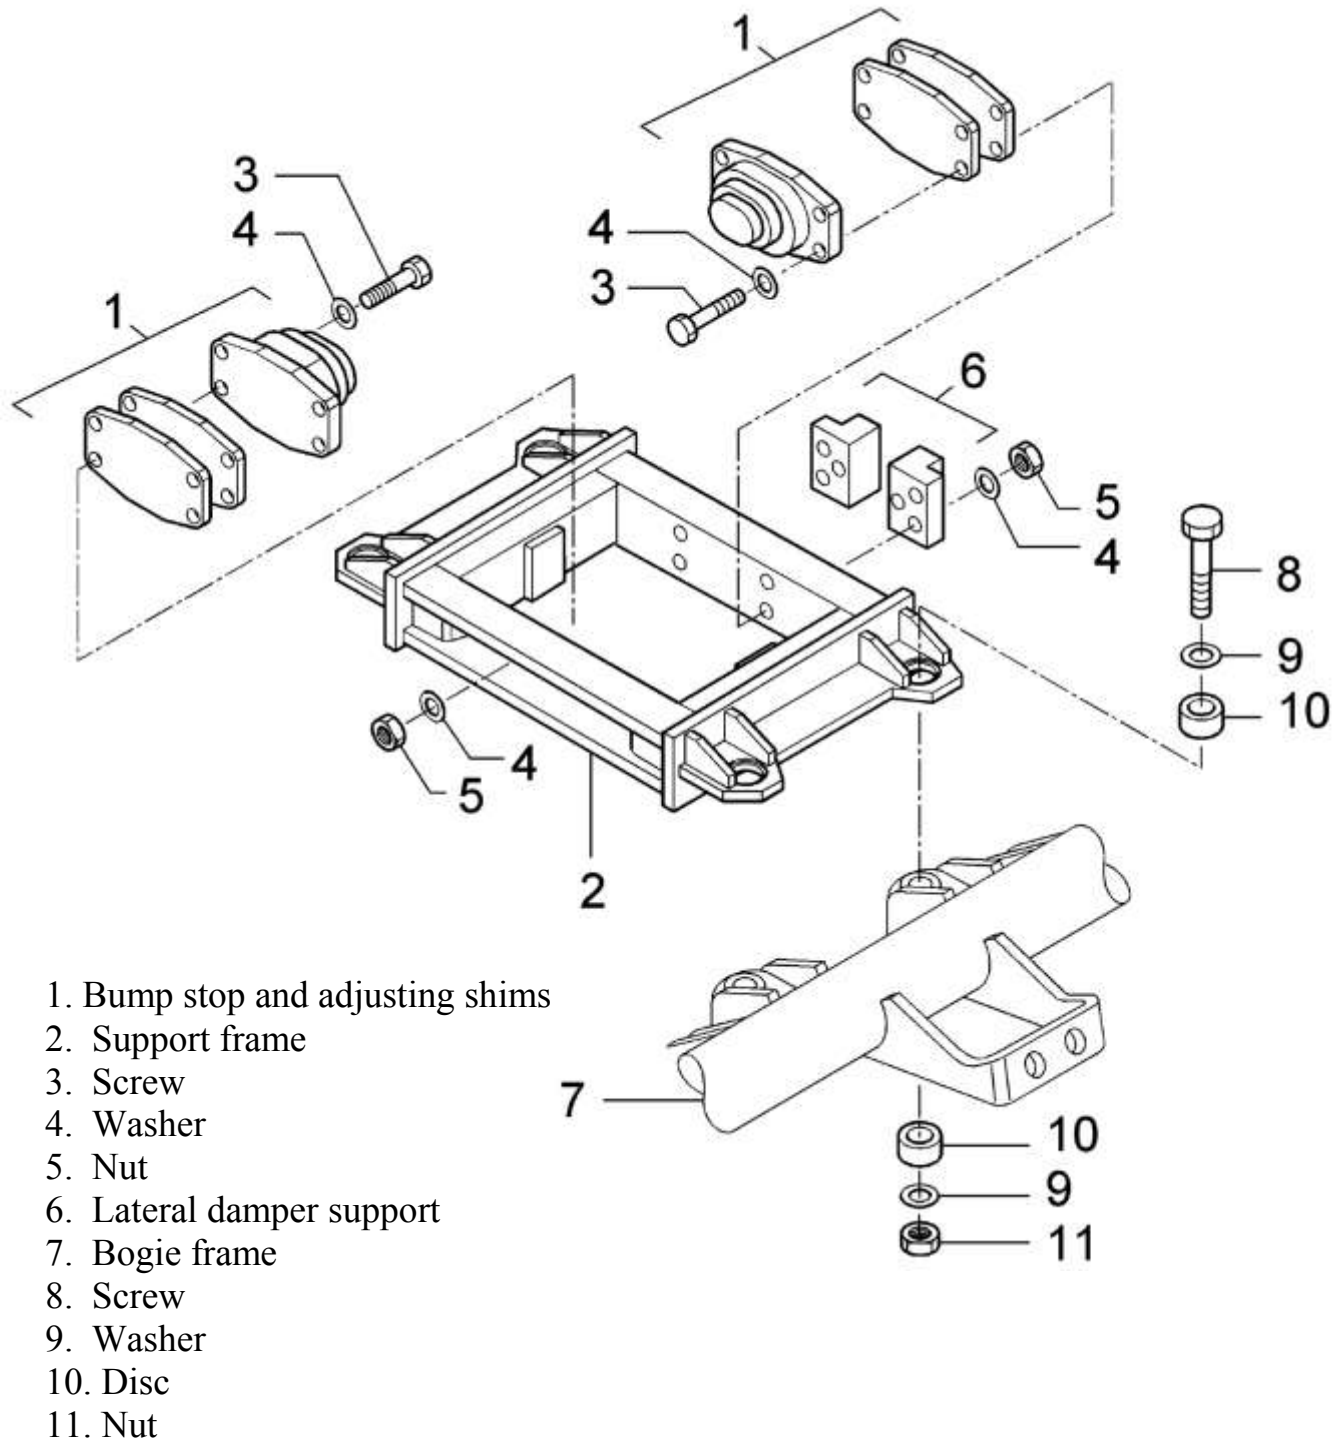

FIG.4.30 Removing Bump Stops From the Bogie Frame
Remove the lateral bump stops (1 - FIG. 4.30) from the frame (2) extracting the screws (3), the washers (4) and the nuts (5). When dismantling them, also the support (6) for the lateral damper can be removed.